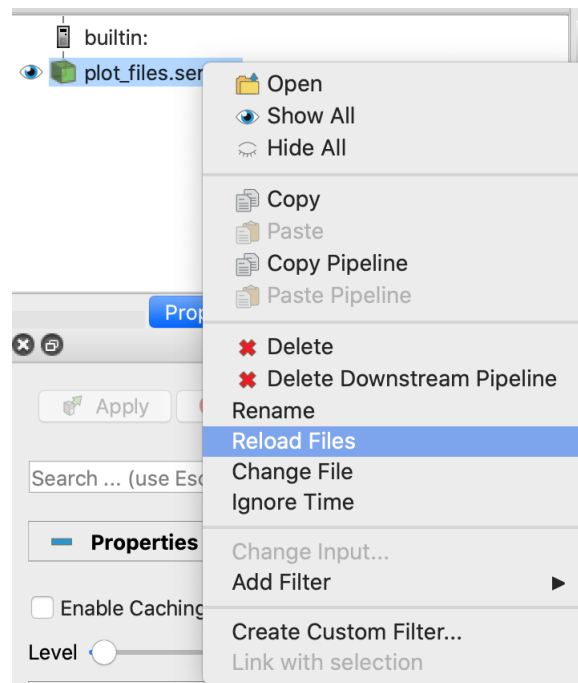
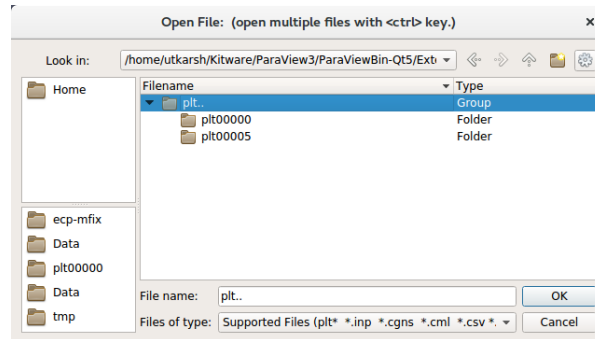

Fig. 18.2: : File dialog in ParaView showing how to reload a series file
Fig. 18.3: : File dialog in ParaView showing a group of plotfile directories selected
2. Navigate to your run directory, and select the fluid or particle plotfile. Note that you can either open single or multiple plotfiles at once by selecting them one by one or select a file ensemble, labeled as `plt..` and indicated as a Group in the “Type” column of the file explorer (see Fig. 18.3). In the latter case, ParaView will load the plotfiles as a time series. ParaView will ask you about the file type – choose “AMReX/BoxLib Grid Reader” or
Open ParaView, and then select “File” → “Open”. In the “Files of Type” dropdown menu (see Fig. 18.3) choose the option `All Files (*)`. Then choose `plot_files.series` and click “OK”. Now the plotfiles have been loaded as a Group as in Step 2 of section ParaView. Now, you can follow the steps 2 to 7 in the section ParaView to plot. As new plotfiles are generated, just re-run the bash script to re-generate the `plot_files.series` file, right-click on `plot_files.series` in the ParaView menu, and click on “Reload Files” (see Fig. 18.2).
1. Run ParaView v5.7, and select “File” → “Open”. You will see a combined “plt..” group. Click on “+” to expand the group, if you want to inspect the files in the group. You can select an individual plotfile directory or select a group of directories to read them as a time series, as shown in Fig. 18.3, and click “OK”. ParaView will ask you about the file type – choose “AMReX/BoxLib Particles Reader”.